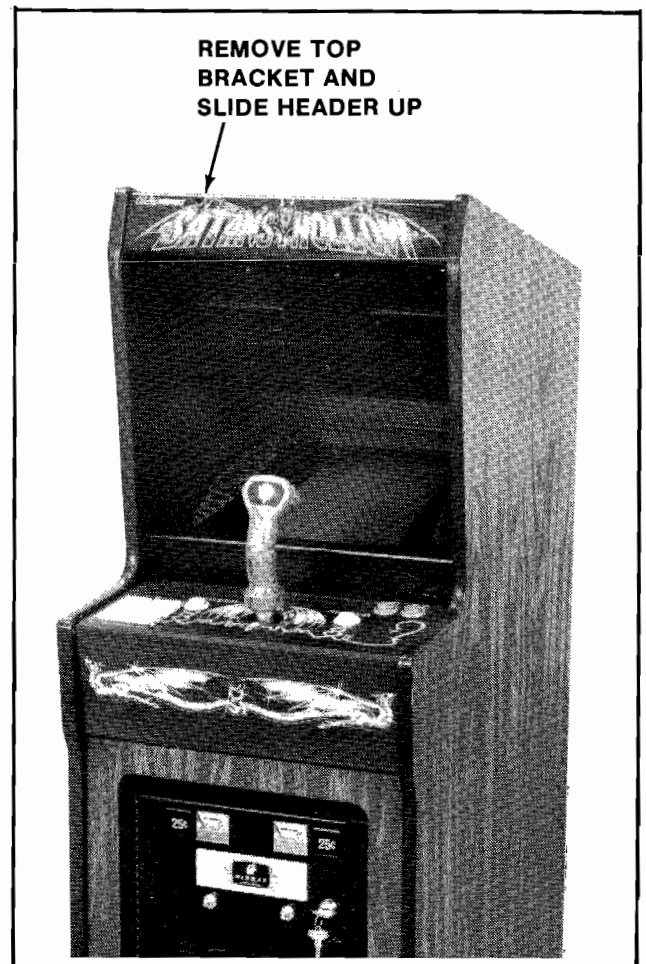

Figure 4-16 Opening the Attraction Panel — Mini
### 2. MINI MODEL. See Figure 4-16.
- Remove the screws which secure the top bracket in place. (They are on its top side.) See Figure 4-16.